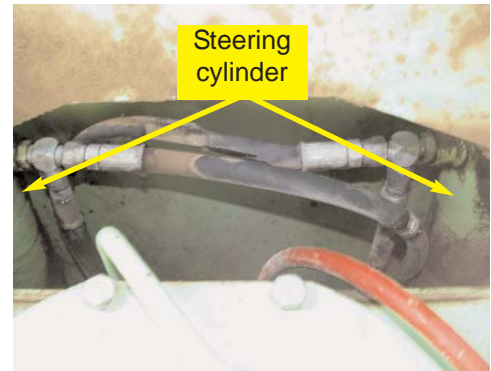

Figure 5a. Steering output location (ST models).
- a. Locate the steering cylinders in the middle of the tractor. (Figure 5a.)